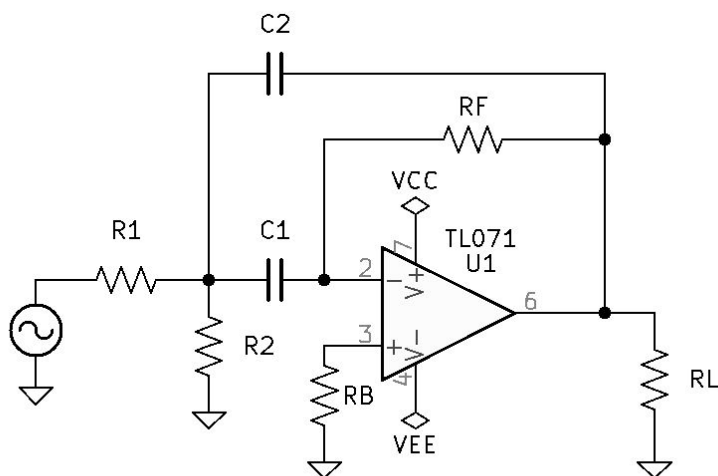

Figure 8.8: Single Stage Band-Pass Second-Order Active Filtering Circuit.
1. See Figure 8.8 *Single Stage Band-Pass Second-Order Active Filtering Circuit* on page 81.